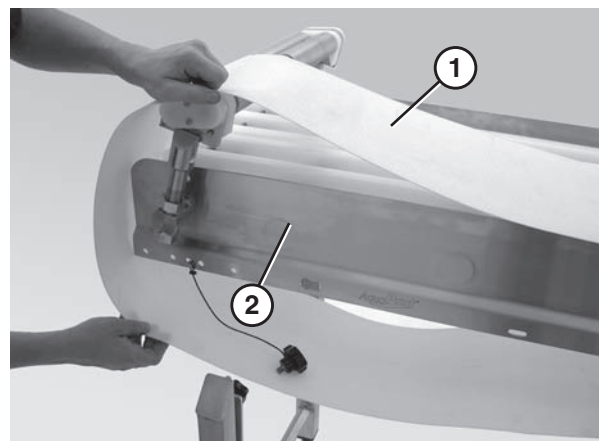

Figure 19
7. Slide the belt (Figure 19, item 1) on over the conveyor frame (Figure 19, item 2).